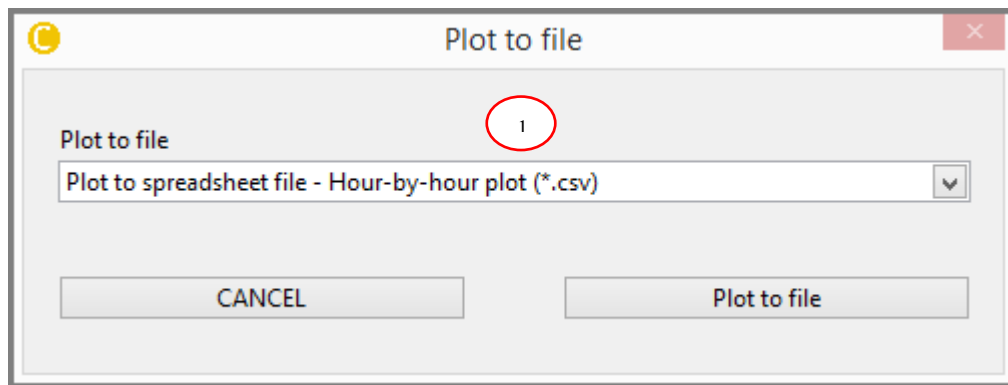

Figure 4-13: Plot TAB - Plot to file
By pushing the **"Plot to File"** button in the plot settings section a pop up dialog appear as shown in the Figure 4-13 allowing the user to **Export the plot** in two different formats:
- Choose the format from the **pull down menu** as indicated by **1** (encircled 1) from Figure 4-13